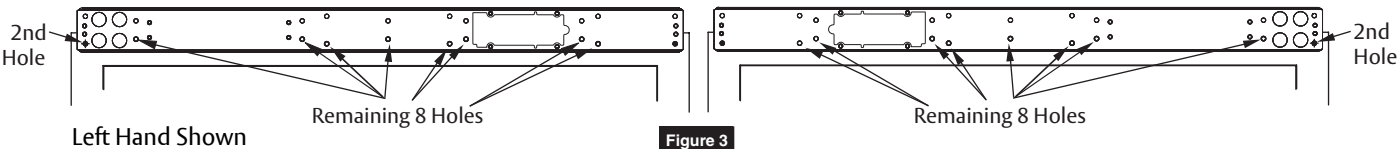

Figure 3
4. Ensure backplate is level and aligned with door frame. (Figure 3)
5. Using backplate as guide, mark and drill second hole. (Figure 3)
7. Using backplate as a guide, drill and tap remaining eight (8) holes in frame. (Figure 3)
8. Secure with eight (8) screws and tighten.